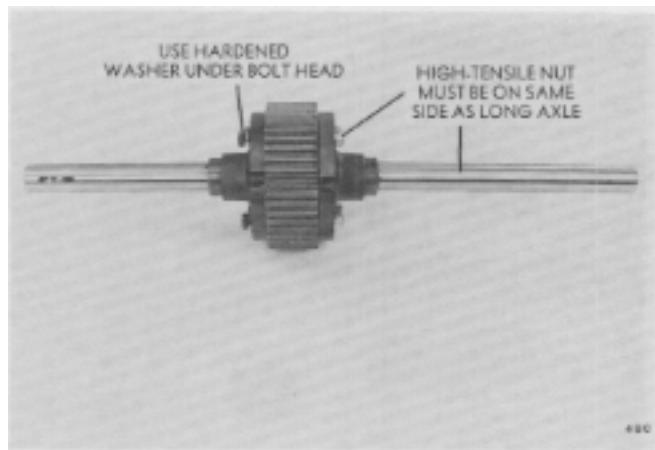

FIG. 32. Differential Assembly
3. Use new nuts when reassembling, which are special high-tensile parts. Use new Grade 8 bolts also, if necessary. Note location of hardened washers and direction of bolt installation (Fig. 32).